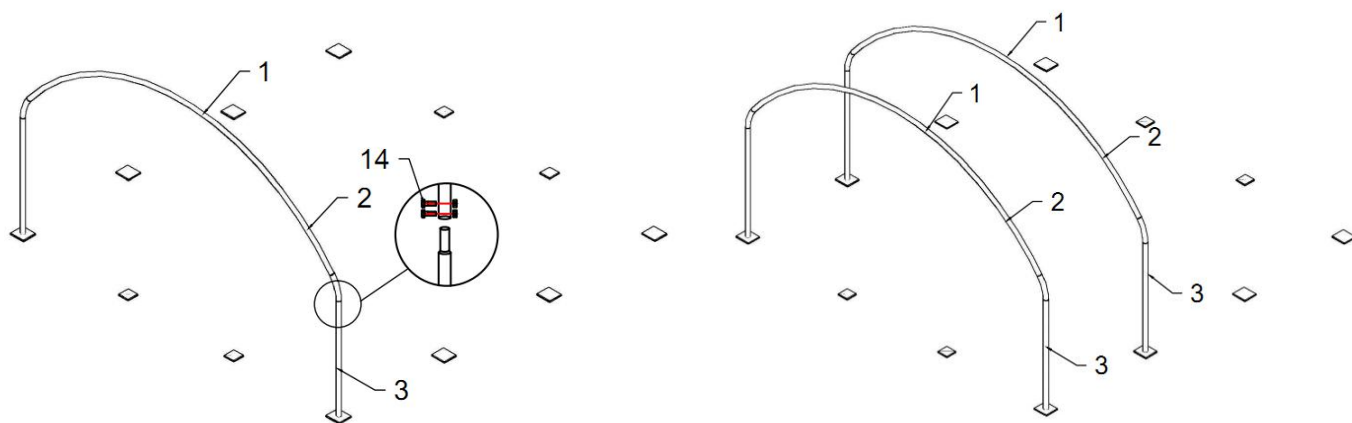

Figure 3
2. Install the first group arches as **Figure 3** shows, Connect **Sidewall Bent Tube**(No.2) and **Standing Leg** (No.3) by using **M8*80 Carriage Bolts** (No.14).